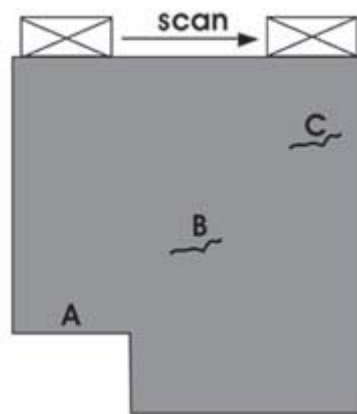

Figure 1
- [c] An ultrasonic inspection was carried out on a test specimen as in Figure 1. Sketch A-scan and B-scan data presentations obtained from the inspection. State 3 information about the defects that can be determined from B-scan data presentation.